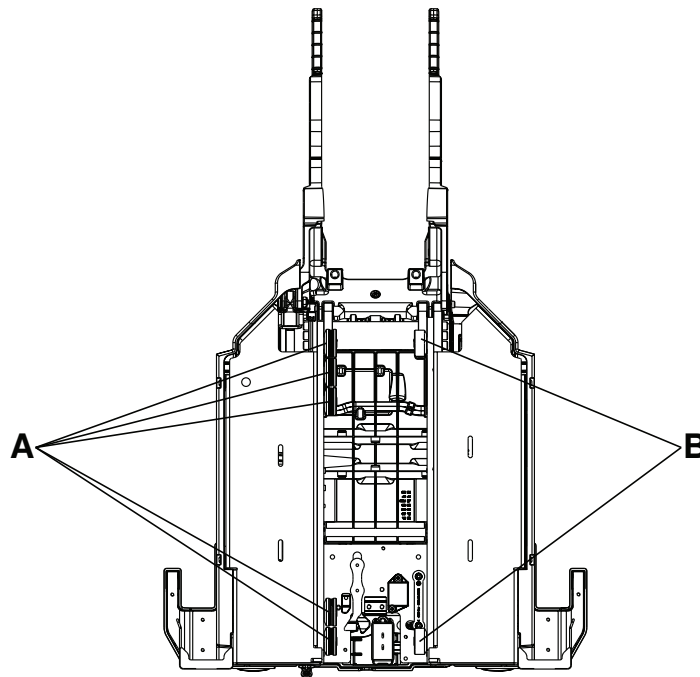

Figure 31 – Trolley bottom view of the V-guide rollers
Note - The V-guide rollers are on the patient right side (five rollers) (A) and the flat rollers are on the patient left side (two rollers) (B) (Figure 31).